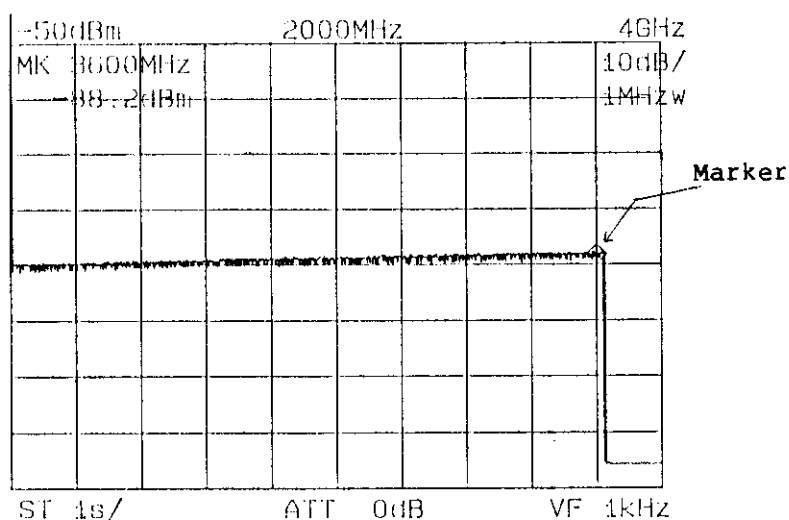

Figure 11-21 Maximum Noise
② Turning the TUNING dial, position the marker at the maximum noise level point. (See Figure 11-21)